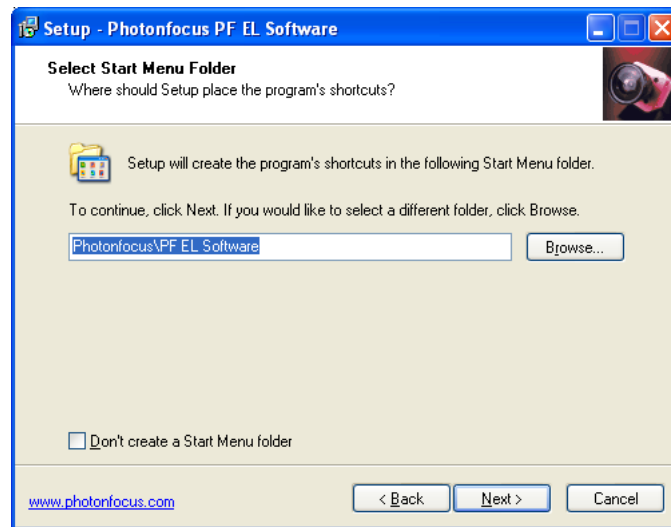

Figure 2.7: Photonfocus PF EL Installer: select Start Menu Folder
7. Select the Start Menu Folder and click on the Next button to continue (see Fig. 2.7).